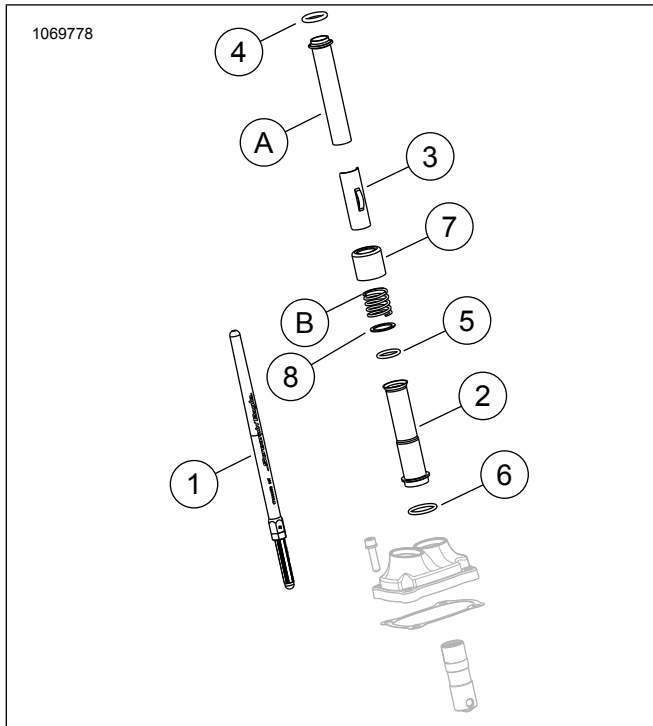

Figura 5. Parts tas-Service
Ara Figura 5 u Tabella 1.
5. Ara Figura 3 u Figura 5 . Installa l-intake pushrods fil-covers tal-pushrods. Biddel l-O-Rings, il-covers tal-pushrods t'isfel u l-cover keeper tal-molla ma' komponenti godda fornuti fil-kit. Kun ċert li t-tarf tal-aġġustatur tal-pushrod huwa isfel.